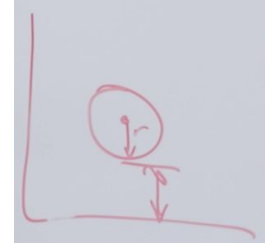

Figure 1.1
- If a hole is positioned near an edge, measure from the edge of the hole to the nearest outer edge, then add the hole's radius to determine the exact center point of the hole (see Figure 1.1).